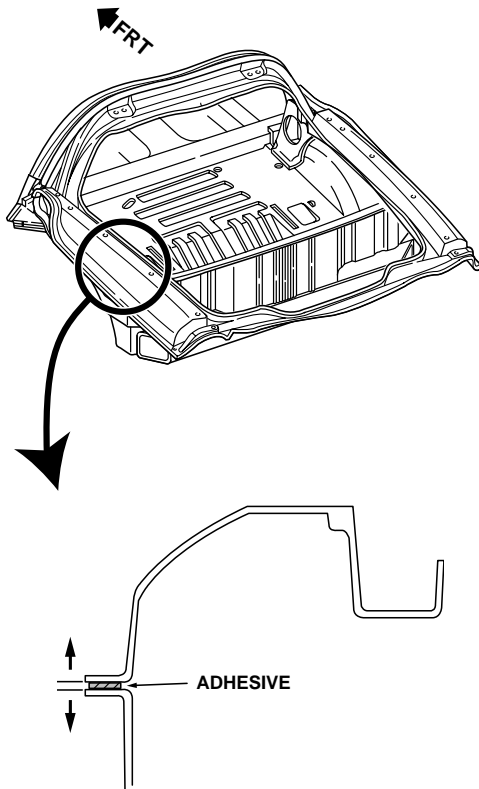

Fig. 3.66 — Adjust Rear Surround Using Adhesive Bead 1mm ≤ 7mm In Thickness
- 2 Temporarily assemble rear end of vehicle to check alignment with the doors. This includes installation of the quarter-panels, roof bow cover, and rear hatch. Place shims as necessary to achieve proper panel alignment and establish adhesive thickness (Fig. 3.66).